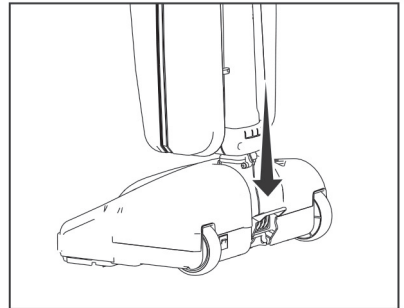

Fig. 1
1. Press the handle release pedal once for normal vacuum cleaning (Fig. 1).